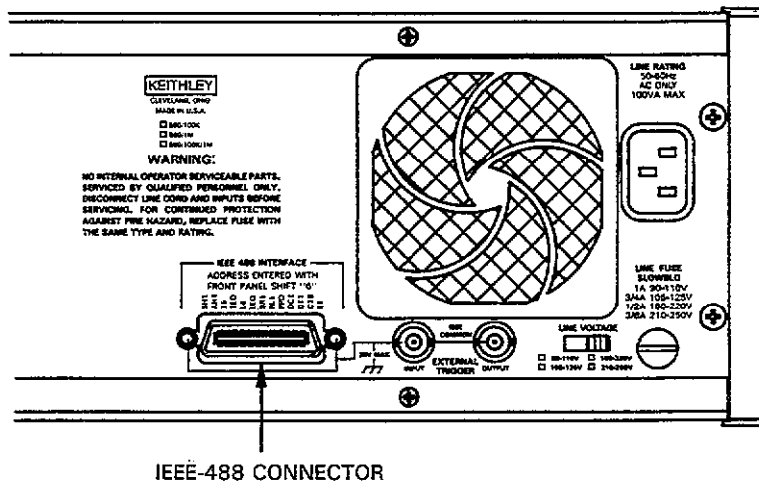

Figure 4-4. IEEE-488 Connector Location
1. Line up the cable connector with the connector located on the rear panel of the instrument. The connector is designed so that it will fit only one way. Figure 4-4 shows the location of the IEEE-488 connector on the instrument.